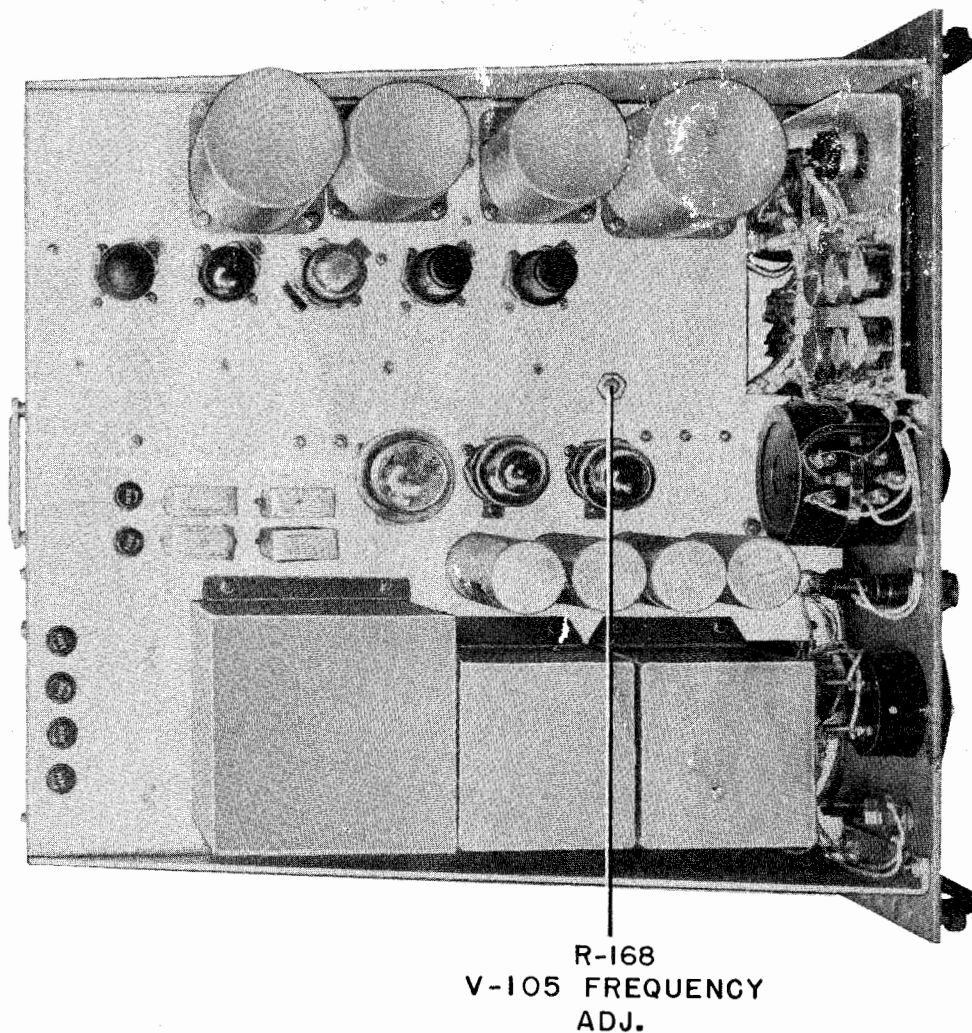

Figure 7-10. Alignment Adjustment Locations, Top View of Modulator-Power Supply MD-165/URT
(4) MODULATOR ALIGNMENT.—The locations of the variable potentiometers referred to herein are shown on Figures 7-10 and 7-11.